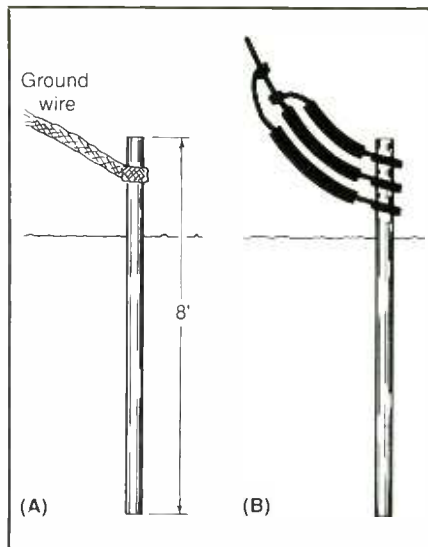

Fig. 1. Shown (A) a traditional grounding rod and (B) a method for making a low-resistance, low-inductance grounding wire by paralleling single conductors.
Shown in Fig. 1(A) is a traditional ground rod used by most hams, CBers and SWLs. You would use either a solid copper or copper-clad steel rod measuring at least 8 feet long for this arrangement. Such rods are available from electrical supply houses and suppliers of amateur radio equipment. Do *not* use the steel rods that have no cladding and are sold by some electrical supply houses. These are usable by electricians when making service-entrance grounds in a home or workplace. R-f applications, however, require the low "skin" resistance of the copper-clad variety of rod. The rod need not be solid copper because the skin effect forces r-f current to flow on only the outer surface of the rod.
If you can't obtain copper braid and find copper sheets too cumbersome to work with, try using parallel conductors, as illustrated in Fig. 1(B), to make the ground system low in both resistance and inductance. If you can find automotive copper—not aluminum—battery cable or primary wire, use it as the ground conductor. Otherwise, use a number of at least No. 6 or No. 8 stranded wires in parallel for this conductor.